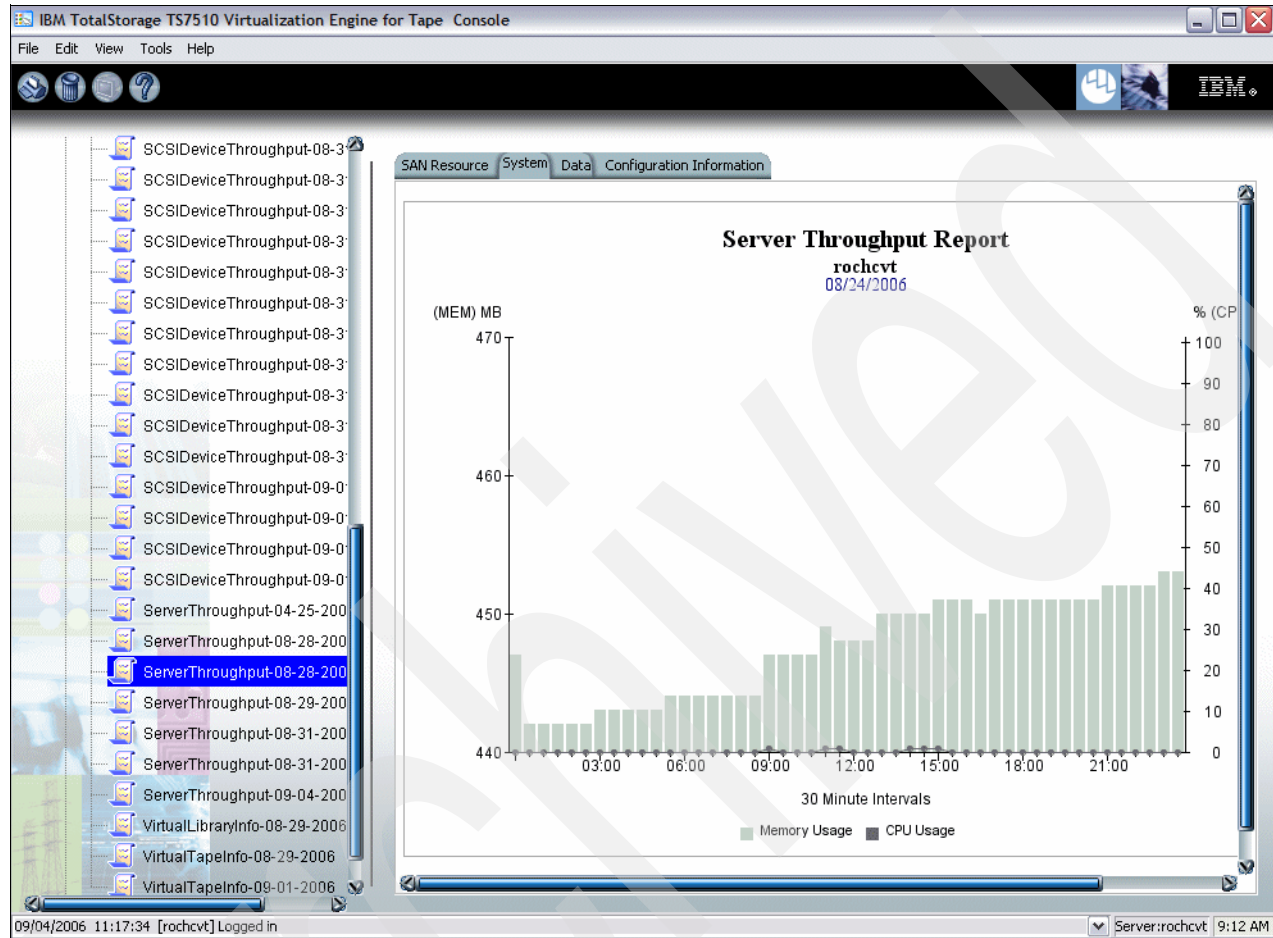

Figure 7-7 Usage of CV5 resources: System
6. In the right panel, click the **System** tab. You are presented the graph that shows CPU and memory usage of 3954 Model CV5. Because CV5 performs emulation of virtual libraries, it is important to follow the usage of its resources. When using compression, you can expect high CPU usage. In our example, CPU usage is less than 5% and memory usage does not go over 450 MB. This is shown in Figure 7-7.